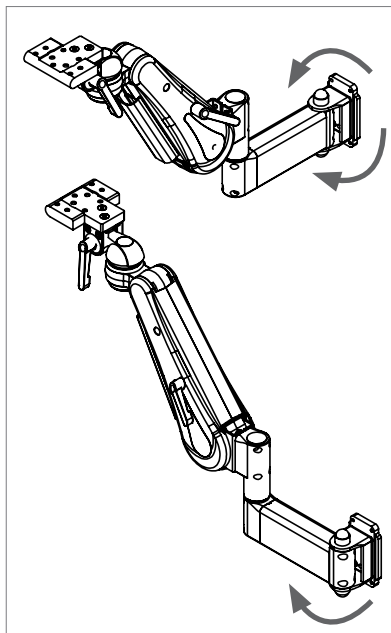

Figure 2
1. **Rotate at Adapter Joint (near wall):** Push on the side of the **EXTENSION ARM**, near the mid-way point (Figure 2).